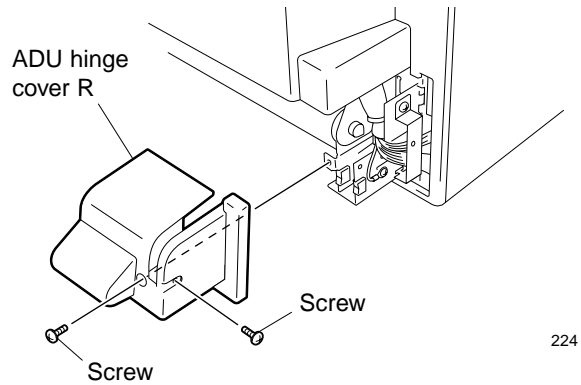

Fig. 6-2
2. Detach ADU hinge cover R. (See Fig. 6-2)